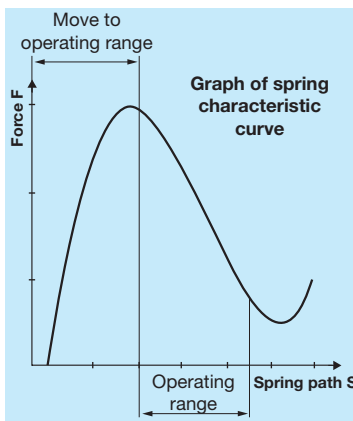

Fig. 3
The installed cup springs (9) are operated in the negative range of the characteristic curve (Fig. 3). A stronger pre-tension produces a dropping in spring force. Turning the adjusting nut (5) (Sizes 03 to 3) or the set screws (6) (Sizes 4 and 5) clockwise therefore produces a decrease in spring force. Turning it anti-clockwise produces an increase in torque (facing direction towards the adjusting nut (5) – Figs. 1 and 2).